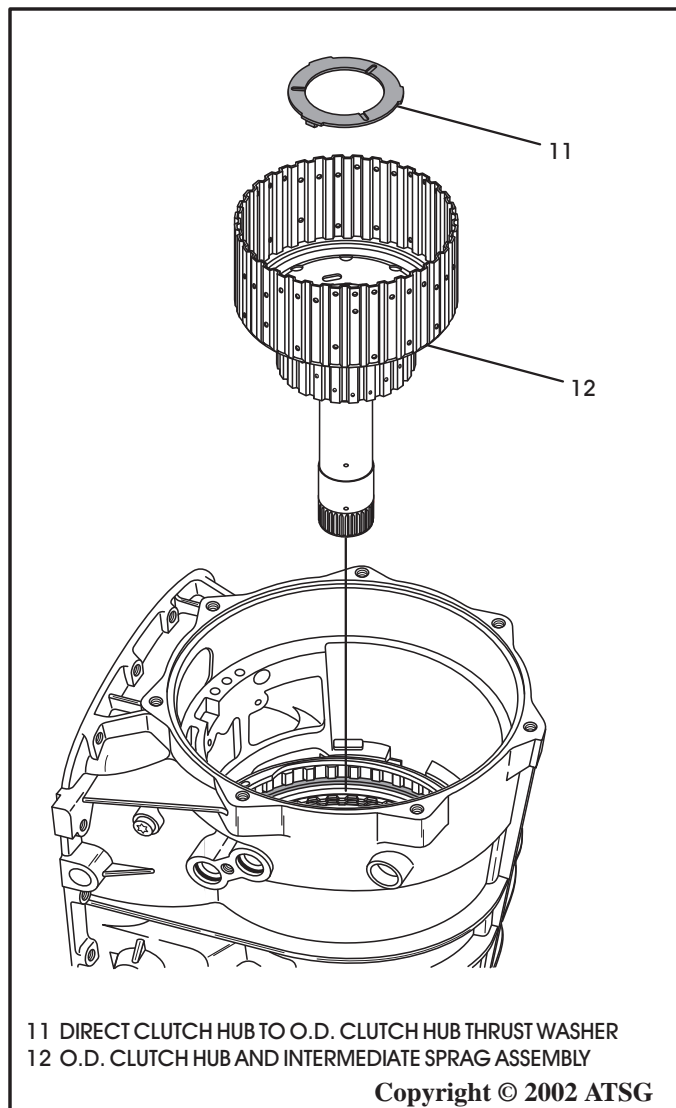

Figure 49
40. Remove the overdrive clutch hub and thrust washer from the case, as shown in Figure 49.